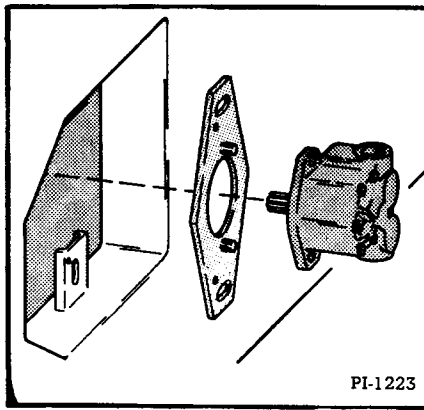

Fig. 37 Removing Pump From Machine
- (1) Remove the hydraulic pump and pump mounting plate from the machine (Fig. 37).